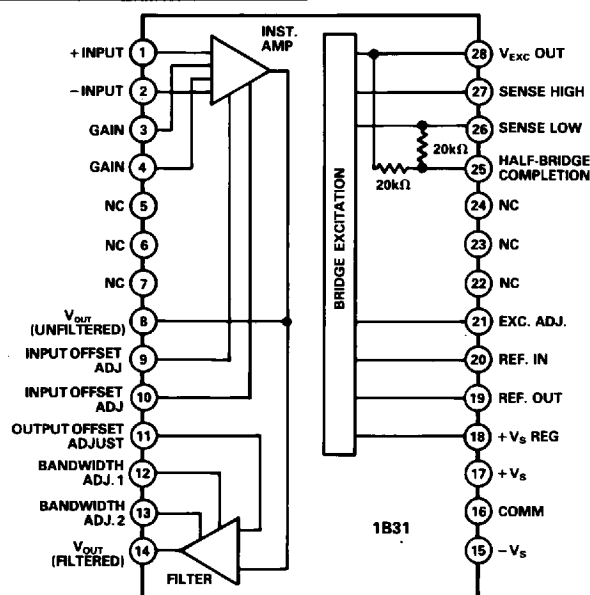

Figure 1. Block Diagram and Pinout
Model 1B31 is based on a two-stage amplifier design and an adjustable voltage regulator section, as shown in Figure 1. The front end is a low noise, low drift, instrumentation amplifier (IA) that is optimized to amplify low level transducer signals (from 2mV full scale) riding on high common-mode voltage ( $\pm 9.5V$ ). The gain of the IA is programmed by a single resistor (1V/V to 2500V/V) and the input offset nulled out by an external potentiometer across the offset adjust Pins 9 and 10. The inverted signal ( $V_{-INPUT} - V_{+INPUT}$ ) is brought out to Pin 8 for applications such as vibration and torque testing where the unfiltered output is required.